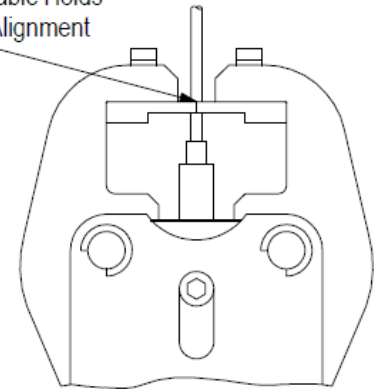

Figure 7
2. Loosen the locator locking screw, insert the locator into the tool head cavity; making sure the locator is bottomed in the cavity, then re-tighten the locking screw (refer to Figure 7, Detail A).
3. Select the proper die set for either RG-402 or RG-405 cable. Position each die on the respective tool jaw and make sure the chamfer is oriented as shown in Figure 7, Detail A.
To align the dies, place the cable inside the locator and squeeze the tool handles to close the tool. Check for even alignment of the dies, as shown in Figure 7, Detail B, then tighten the screws to secure the dies.